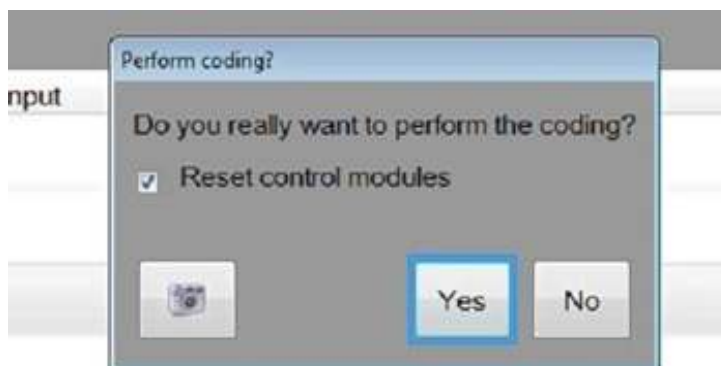

Figure 7. Coding pop-up screen
11. A pop-up menu with the message: "Do you really want to perform the coding?" appears (Figure 7). Select "Yes" to continue.